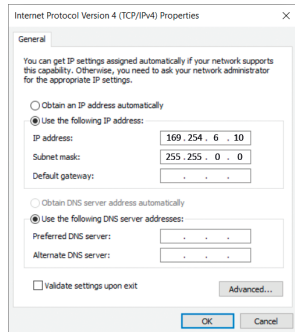

Fig. 8
4. On IPv4 properties screen, select **Use the following IP Address** option (Fig. 8).
5. Enter the following IP address: 169.254.6.xxx (any number except 225). As you can see in image (Fig. 8), the first 3 number sets (169.254.6) in IP Address field need to be the same as the Camera IP address. You can only change the last number set with any number from 1 to 254. Click in the Subnet Mask area, which should auto complete. Click OK.